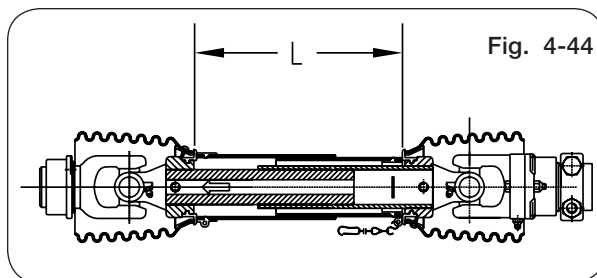

Fig. 4-44
1. Fully collapse PTO shaft and measure length "L" (Figure 4-44).